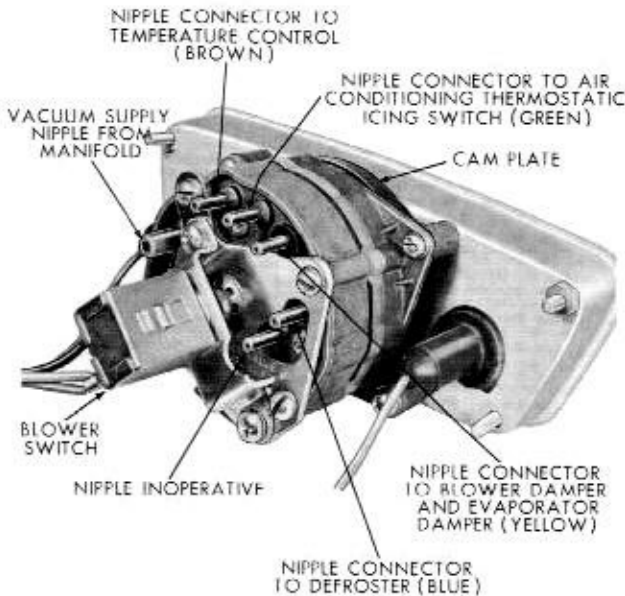

Fig. 4-7—Vacuum Servo Control—1958—(8M-7910)
5. Remove two switch attaching screws (figure 4-7) and slide the switch and shaft assembly out of the vacuum servo control.